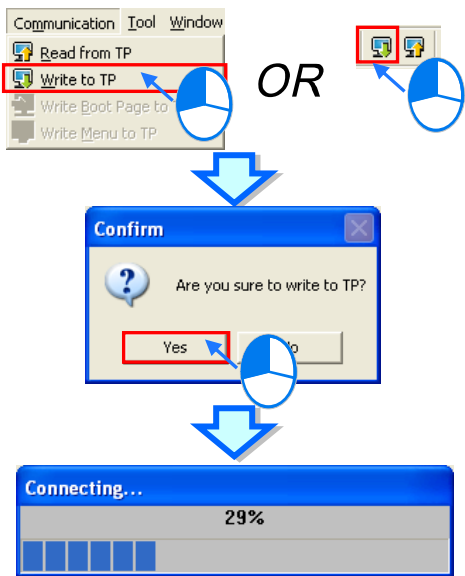

Figure 6-5 Downloading a project
After the users click **Write to TP** on the **Communication** menu or  on the standard toolbar, the **Confirm** window will appear. After the users click **Yes** in the **Confirm** window, the window showing the percentage of progress in downloading the project created will appear, as shown in Figure 6-5.
- Step 8: After the users click **Write to TP** on the **Communication** menu, the **Confirm** window will appear. After the users click **Yes** in the **Confirm** window, the page designed will be downloaded to a TP04G series text panel, and the window showing the percentage of progress in downloading the project created will appear, as shown in Figure 6-5.